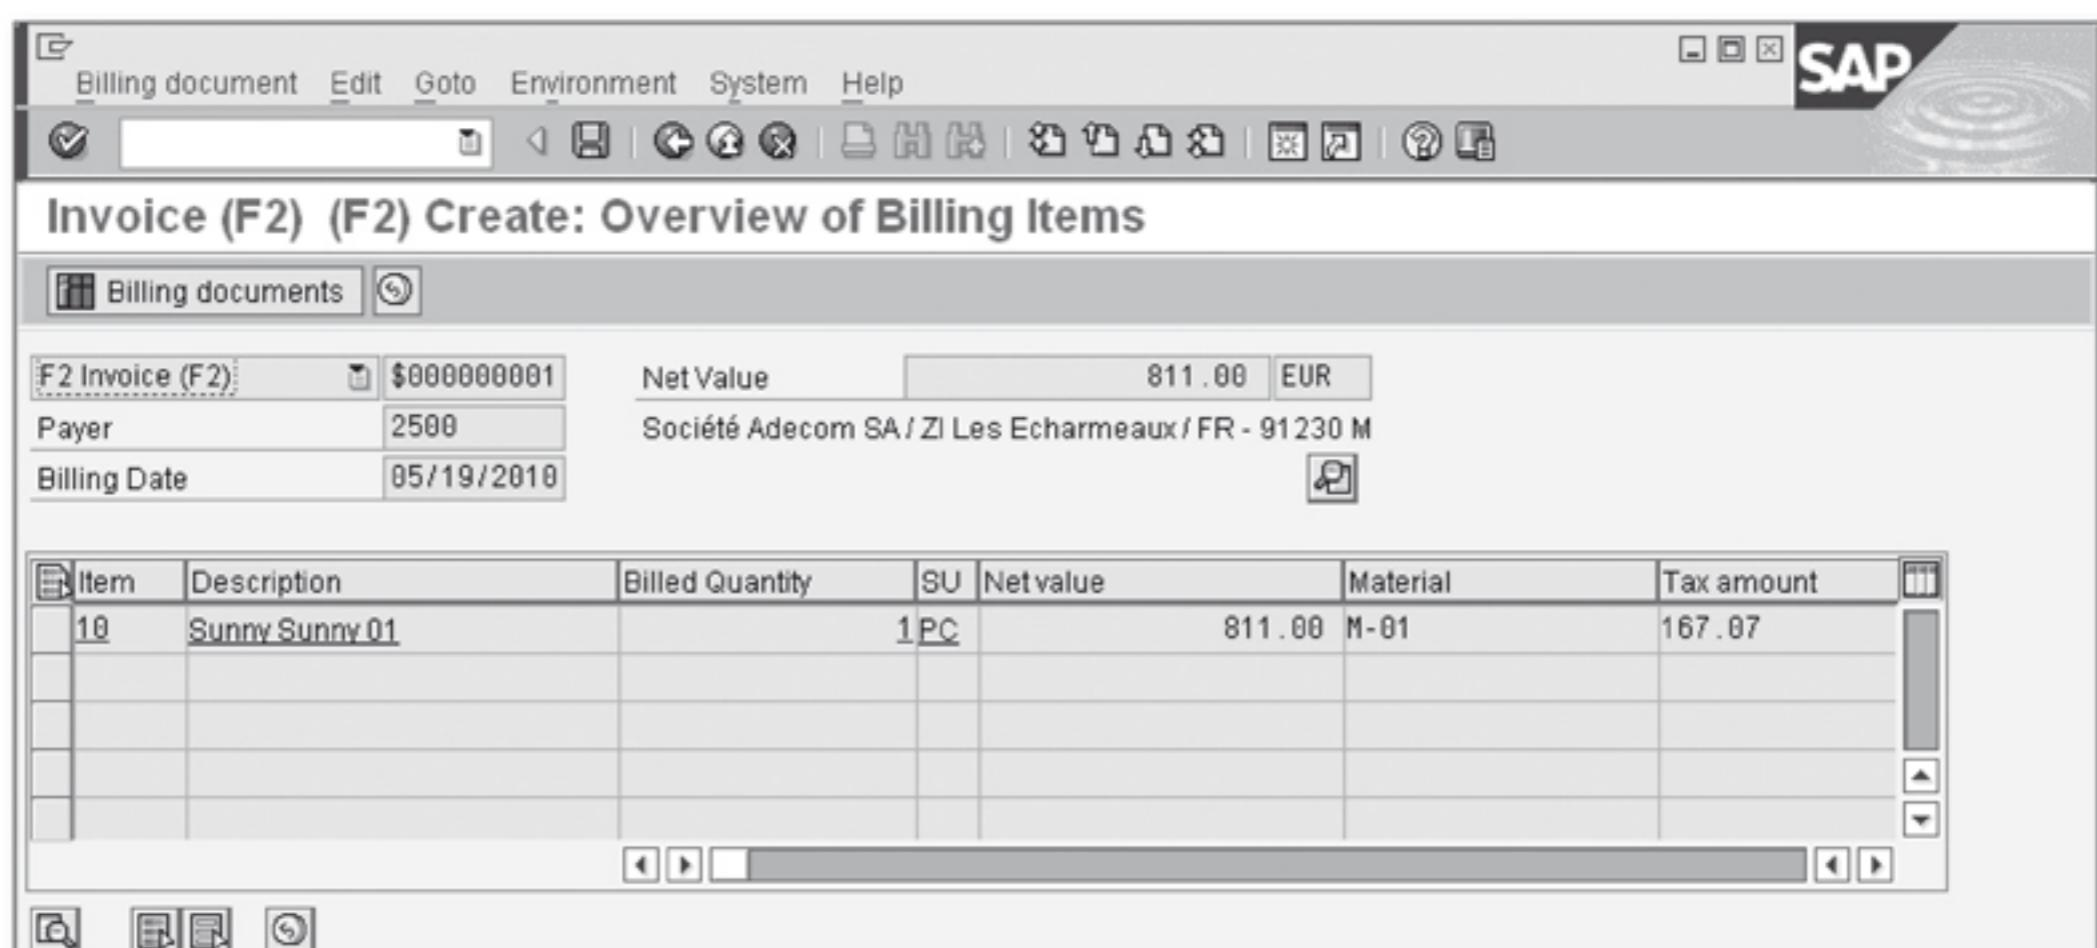

Figure 3.54 Invoice Create – Overview Screen
- On the Invoice Create Overview of Billing Items screen, you can verify that all data copied from the returns order is correct. Note the billing document type – F2-Invoice – used for standard customer orders (see Figure 3.54).